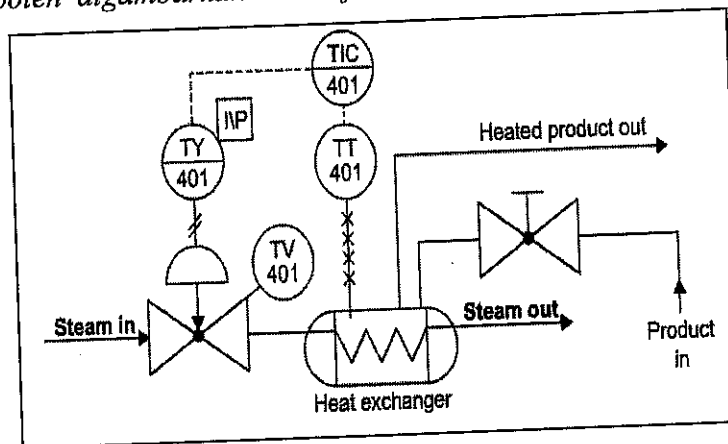

Figure B4(c)/Rajah B4(c)
- (c) Figure B4(c) shows a single loop that controls a heat exchanger. The process can be illustrated by P&ID. Explain the process.